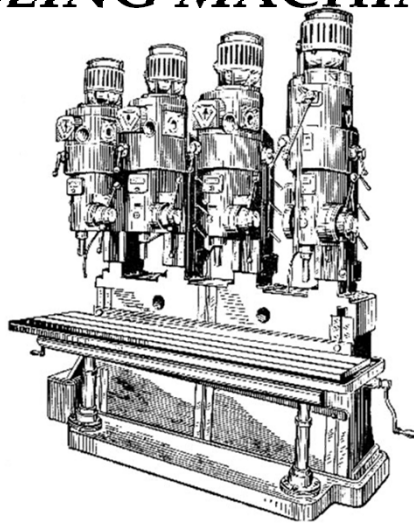

FIGURE 3.25 Gang, multiple-spindle drilling machine.
- The gang machine is in fact several upright drilling machines having a common base and single worktable (Figure 3.25). They are used for consecutive machining of different holes in one WP, or for the machining of a single hole with different cutting tools.